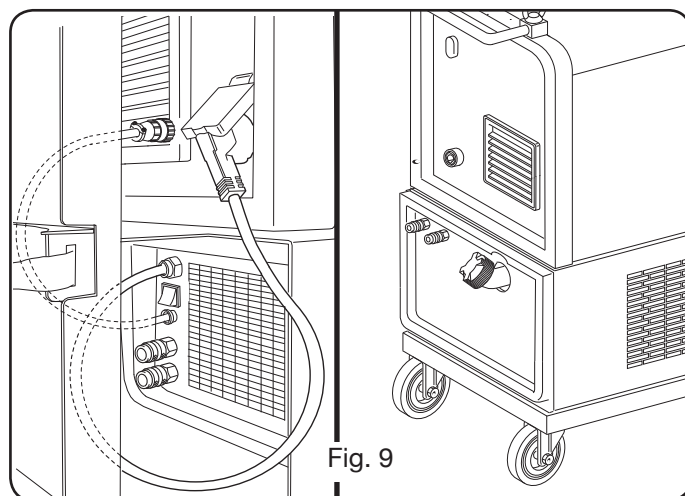

Fig. 9
3.5 MONTAGE AV KYLENHET (ART. 1683 - LEVERERAS PÅ FÖRFRÅGAN - ART. 306-308-315-316) (Fig.9)